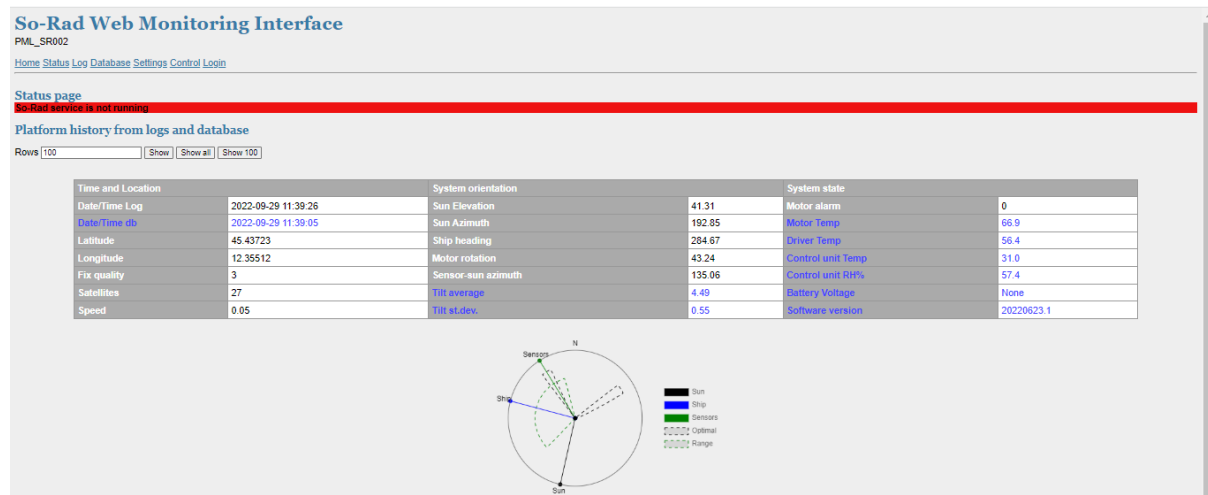

Figure 8: Status page
Note: the running status of the So-Rad service is shown in several menus. Stopping the service will allow system tests to be carried out and restarting the service will load any new settings. However, the running status of the service does not imply that measurements are carried out, as this depends on (1) the operator entering valid settings; (2) environmental conditions being met; (3) sensors and peripherals being correctly connected. To ensure that the system is operating as intended, refer to the **Status** page (Figure 8) to see when the last measurement was taken and to the **Logs** page to diagnose any errors.